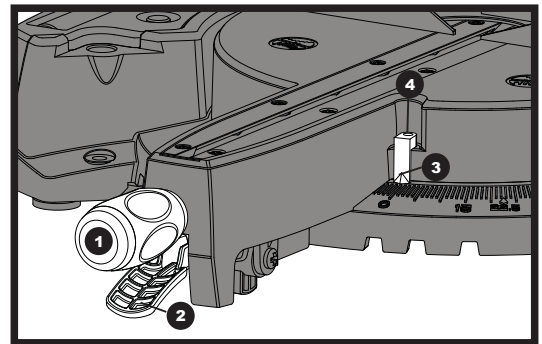

Fig 24
- 1) Unlock the mitre table by turning the mitre handle (1) counterclockwise.
- 2) Move the turntable while lifting up on the positive stop locking lever (2) to align the indicator (3) to the desired degree measurement.
- 4) If the mitre angle desired is not one of the nine positive stops, simply lock the mitre table into position by turning the mitre handle in the clockwise direction. (See fig. 24)
- 2) Loosen the screw (4) that holds the indicator with a Phillips screwdriver.
- 3) Adjust the indicator (3) to the 0° mark and retighten screw. (See fig. 24)